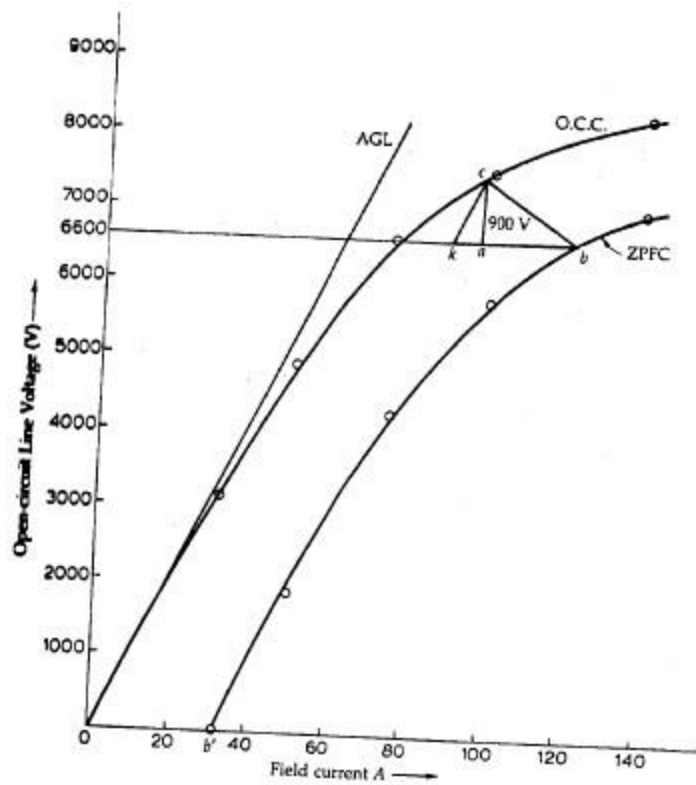

Fig. 3.
**SOLUTION.** The O.C.C. and the ZPFC are plotted as shown in Fig. 3